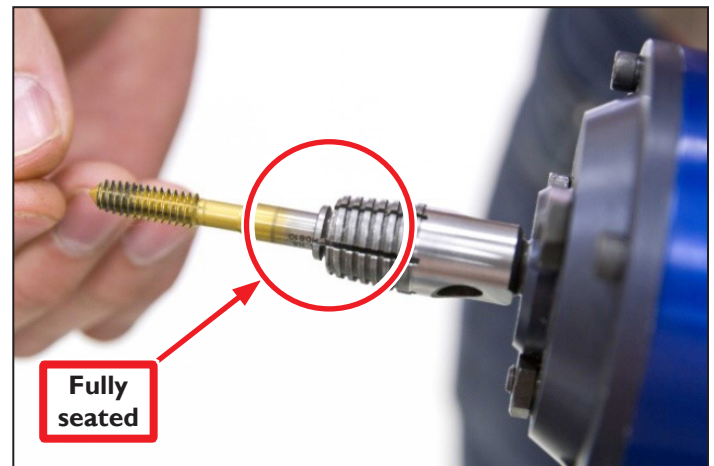

Figure 12
10. Slowly twist Collet until flats align with the flats on the inside of Tapered Receiver; at this point, Collet is fully seated in Tapered Receiver (see **Figure 12**).